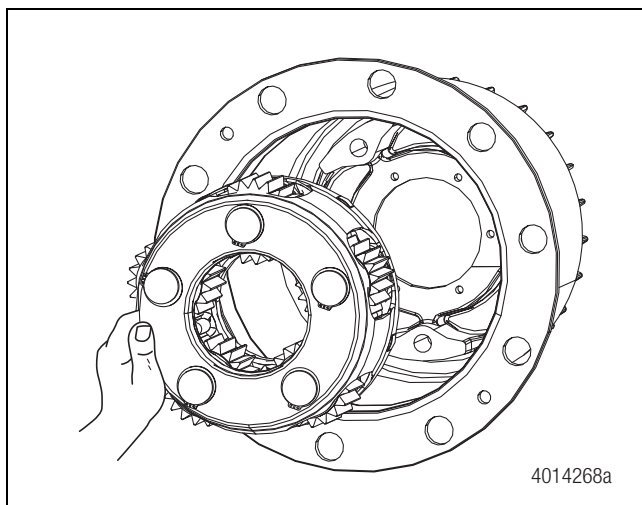

Figure 12.4
5. Turn the planetary carrier over. Install the snap rings onto the ends of the pinion shafts. Figure 12.4.